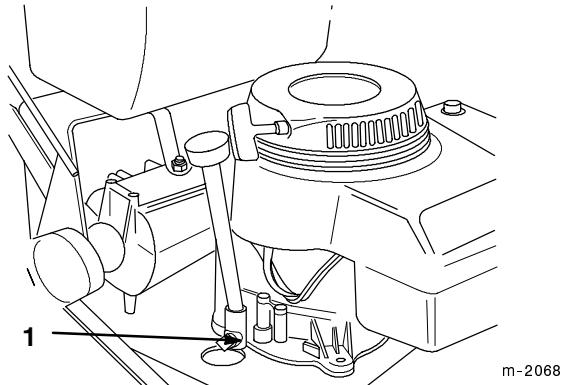

Figure 23
3. Place a pan below the oil drain. Remove the oil drain plug (Fig. 23).